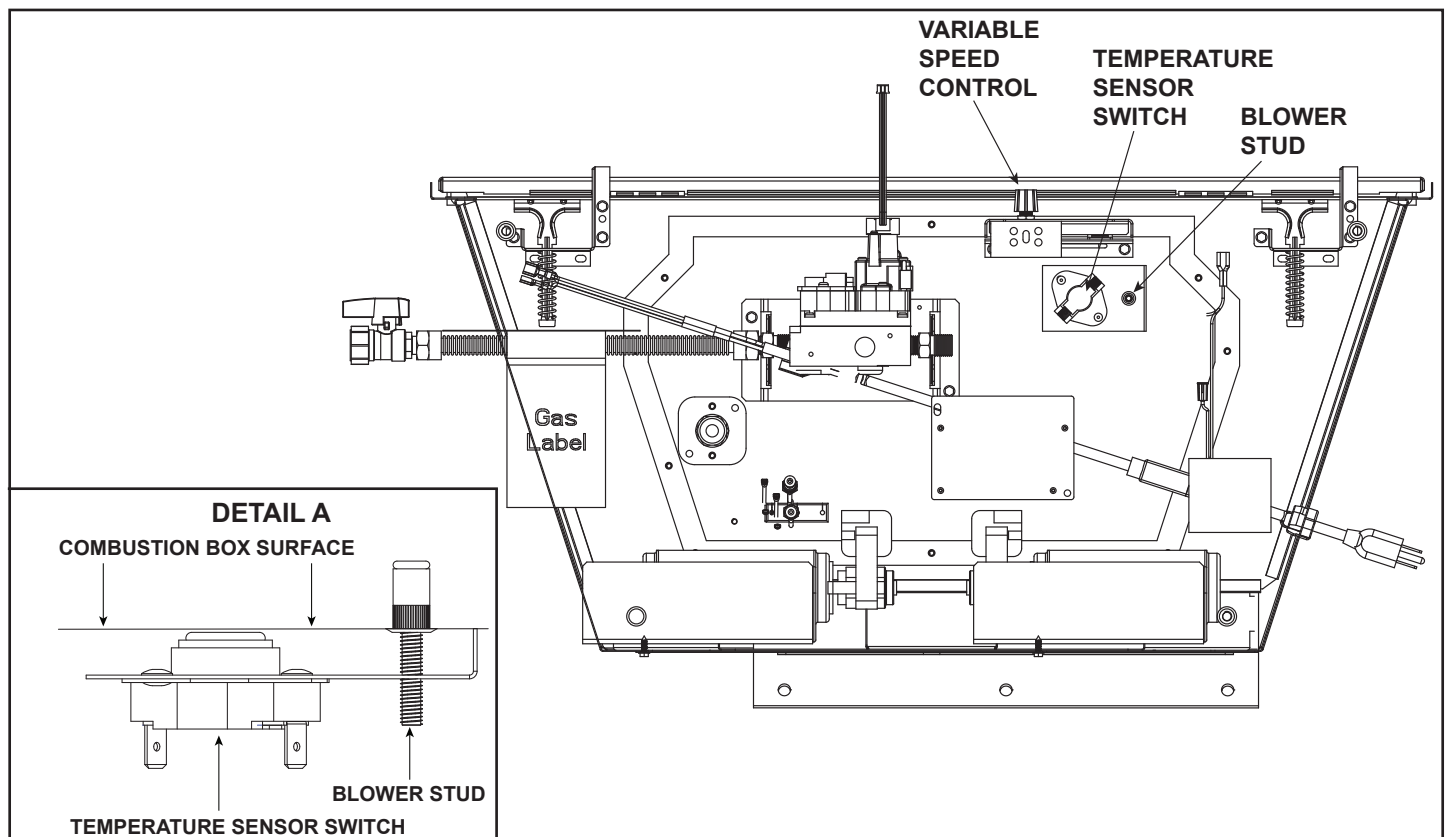

Figure 6.
1. Slide the variable speed control behind the control panel. With the stem sticking out of the pre-punched hole, attach the locknut tightly and reattach the knob on the stem. See Figure 6. Turn the speed control switch to the "ON" position.
**NOTICE:** The blower stud is located on the bottom of the combustion box. See Figure 6.
**NOTICE:** The temperature sensor switch must be installed so that the sensor switch is facing the combustion box surface. See Detail A of Figure 6.